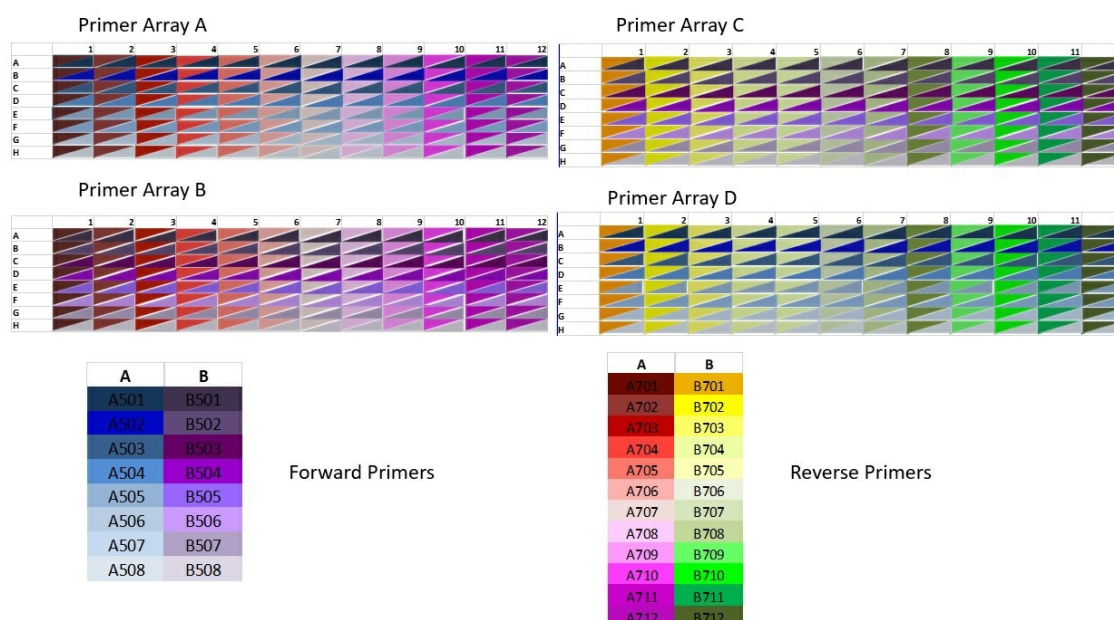

Figure 1: An illustration of Dual-index primer pair allocation
- Order indexing primers direct from oligo manufacturer (For example IDT, Sigma genosys or MWG) suspended in water $0.5 \mu\text{M}$ scale, Desalt purification and $10 \mu\text{M}$ concentration. These indexing primers consist of: an Illumina Nextera adapter i5 (Forward primer) AATGATACGGCGACCACCGAGATCTACAC or i7 (reverse primer) CAAGCAGAAGACGGCATACGAGAT, Unique 8bp barcode sequence and pre-adapter i5 TCGTCGGCAGCGTC (F) or i7 GTCTCGTGGGCTCGG (R). Barcode design when demultiplexed allows for the unique assignment of an individual sequence to sample. Figure 1 gives a graphical representation of how 16F, and 24R barcodes sequences are allocated to give 384, unique barcode combinations. Full barcode sequence is given in attached document.